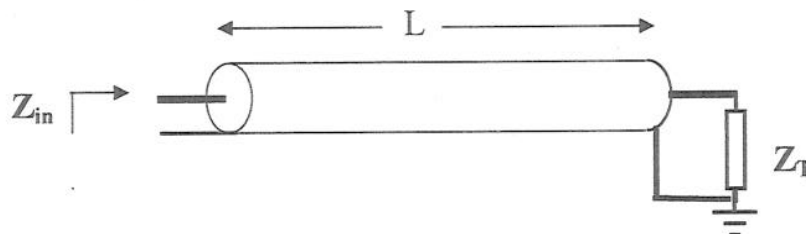

Figure 3.1: Transmission line for problem 3.
- Write an expression for the input impedance  $Z_{in}$  of this cable when the cable is terminated in an impedance  $Z_T$ , as shown in Figure 3.1. Calculate the magnitude of  $Z_{in}$  if the frequency is such that  $\lambda = 8L$ . [4]